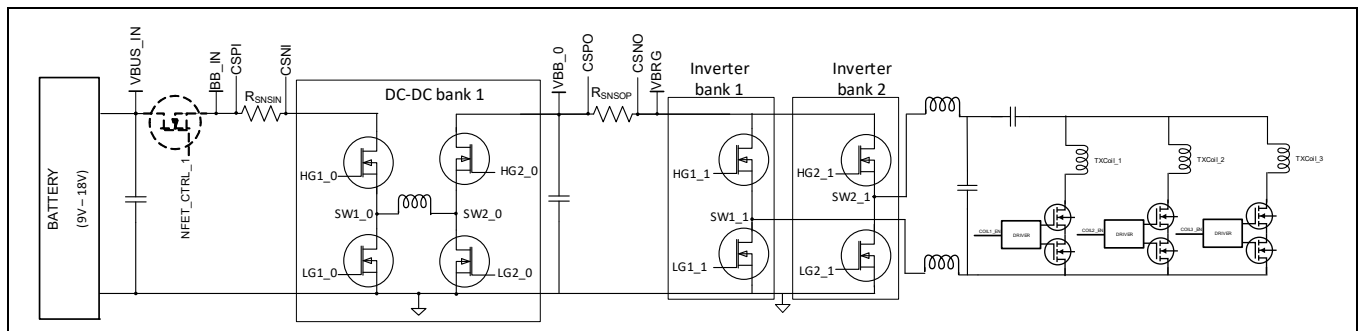

Figure 2 WLC1515 key pin mapping with buckboost and inverter power supplies^[2]
- Refer Figure 2 for an overview of key WLC1515 pin mapping to power input, current sense and gate drivers of buckboost and inverter power supplies.